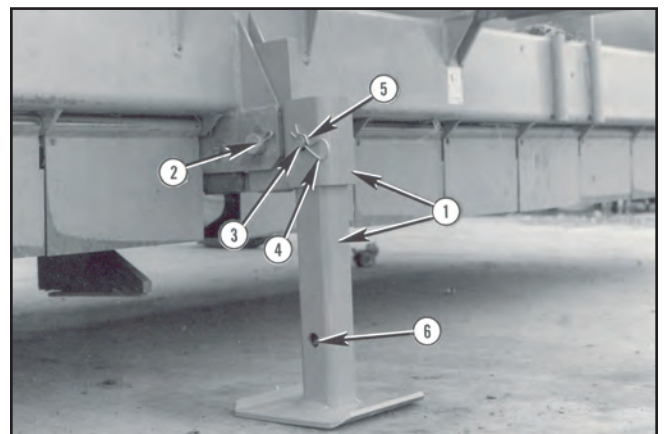

FIGURE 112
Install support stand assembly (1) with pin (2), along with its cotters. Install cross pin (3) and Q.A. pin (4) in hookup and storage hole (5). Hole (6) is for shredder operation and transport. See Figure 112.